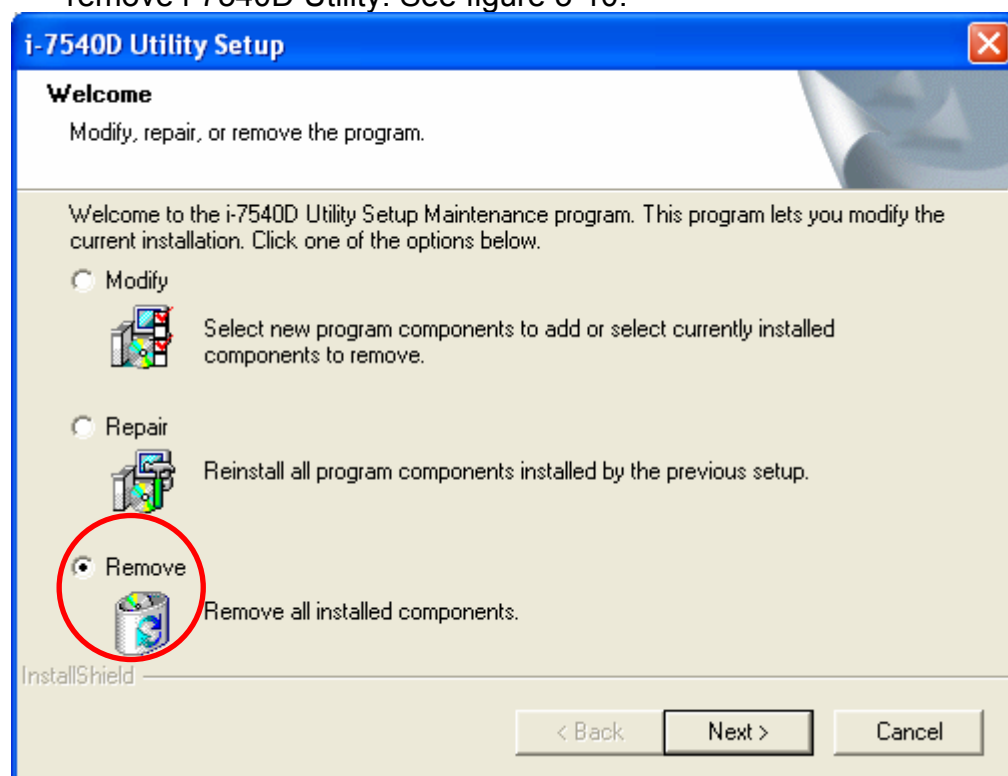

Figure 3-10: “Modify, repair, or remove the program” dialog
Step 4: Select the “Remove” option button, and press the “Next” button to remove i-7540D Utility. See figure 3-10.